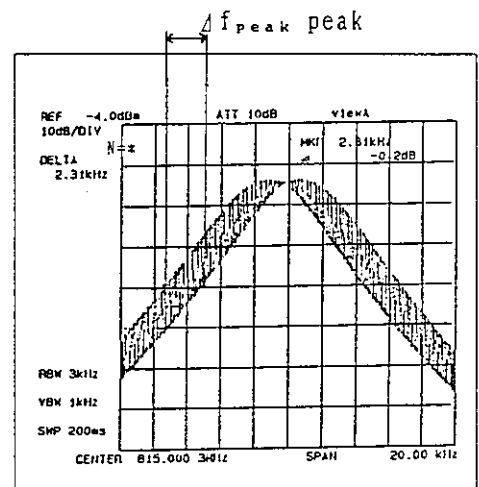
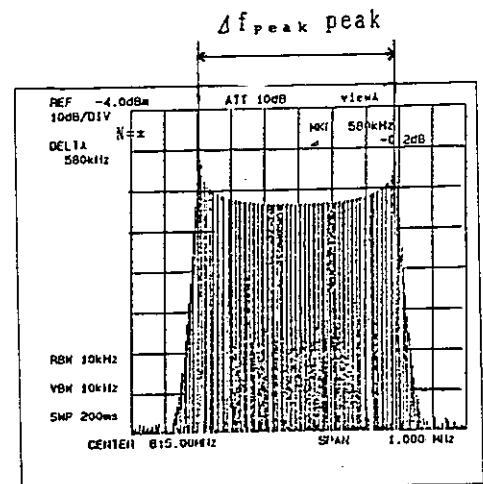

Figure 5-22 Measurement with Small  $\Delta f_{\text{peak}}$
Figure 5-23 Measurement with Large  $\Delta f_{\text{peak}}$
- ① Set the resolution bandwidth to more than five times the modulation frequency, including the main sideband.
- ② Set the carrier frequency as the center frequency.
- ③ Set the frequency span to facilitate measurement according to the peak deviation.
- ④ Figure 5-22 gives an example with a small  $\Delta f_{\text{peak}}$ , Figure 5-23 an example with a large  $\Delta f_{\text{peak}}$ . The  $\Delta f_{\text{peak}}$  can be measured with the waveform.
- Measurement with small  $\Delta f_{\text{peak}}$  (Figure 5-22)
- Measurement with large  $\Delta f_{\text{peak}}$  (Figure 5-23)